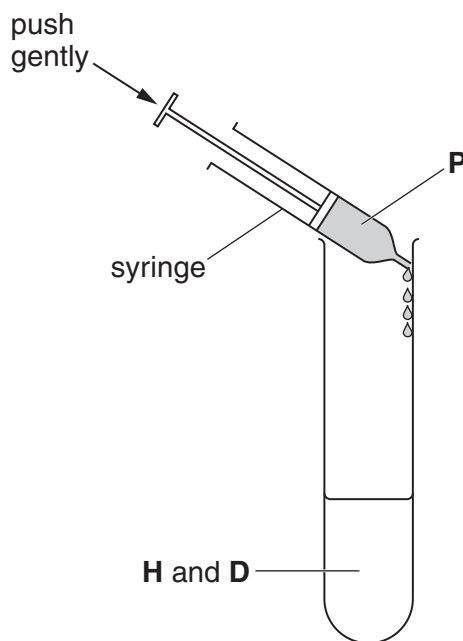

Fig. 1.4
- As shown in Fig. 1.4, put 1 cm^3 of **P** into the same test-tube and stir as before. Immediately start timing.